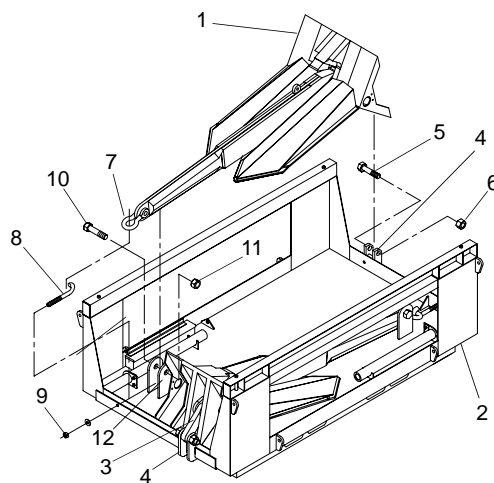

Figure 24. Offshore Anchor Stowage
12. Install the offshore anchors (figure 24, item 1) on anchor pallets (figure 24, item 2).
- b. Using forklift and forklift lifting adaptor, position anchor (figure 24, item 1) in pallet (figure 24, item 2), aligning hole in anchor foot (figure 24, item 3) with pallet bracket (figure 24, item 4).
- c. Insert bolt (figure 24, item 5) through pallet bracket (figure 24, item 4) and anchor foot (figure 24, item 3).
- d. Install and tighten nut (figure 24, item 6) on bolt (figure 24, item 5).
- e. Place anchor shackle (figure 24, item 7) in hook (figure 24, item 8) and tighten nut (figure 24, item 9).
- f. Install and tighten bolt (figure 24, item 10) and nut (figure 24, item 11) in pallet bracket (figure 24, item 12).